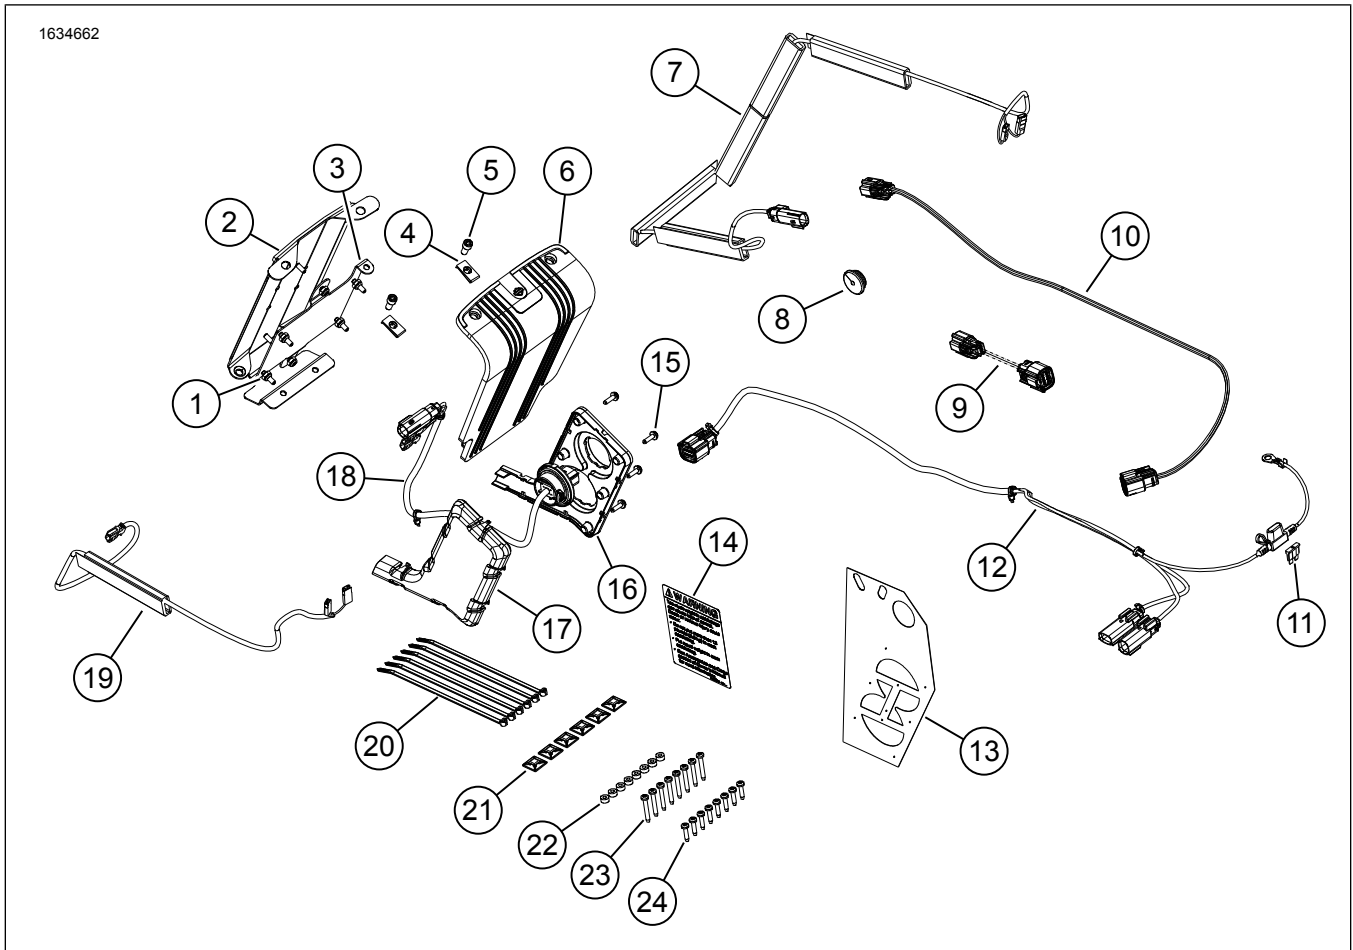

Figure 1. Kit Contents: Bluetooth Audio-Powered by Rockford Fosgate
3. Figure 1 Install saddlebag capacity label (14).